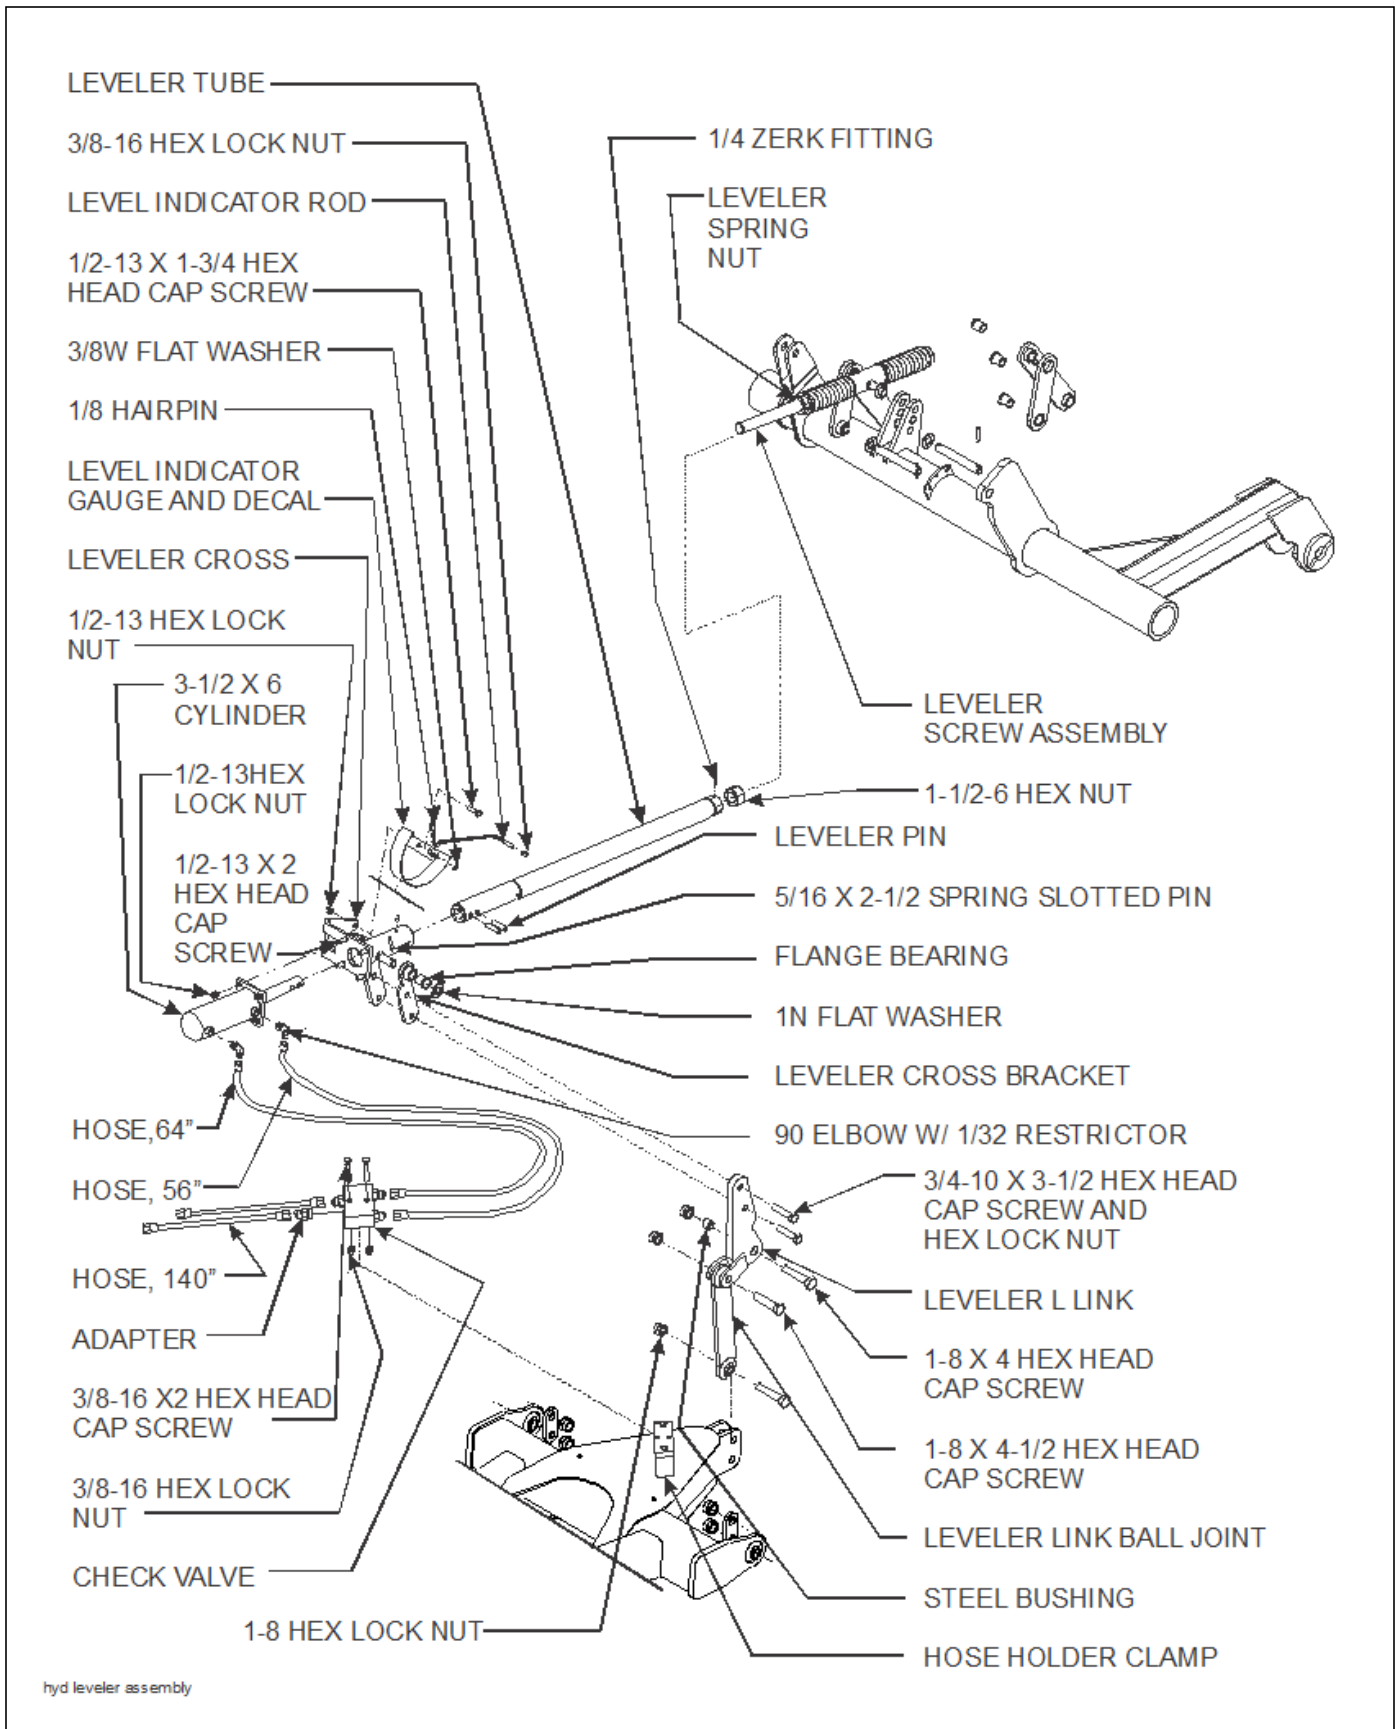

Figure 3-4: Hydraulic Leveler Installation
1. Thread a 1-1/2-6 hex nut onto the leveler screw assembly (See Figure 3-4.) Initially leave approximately 7" of threads visible between the 1-1/2-6 hex nut and the leveler spring nut. Further adjustment may be required.
13. Install adapters into each port of check valve (See Figure 3-4.)